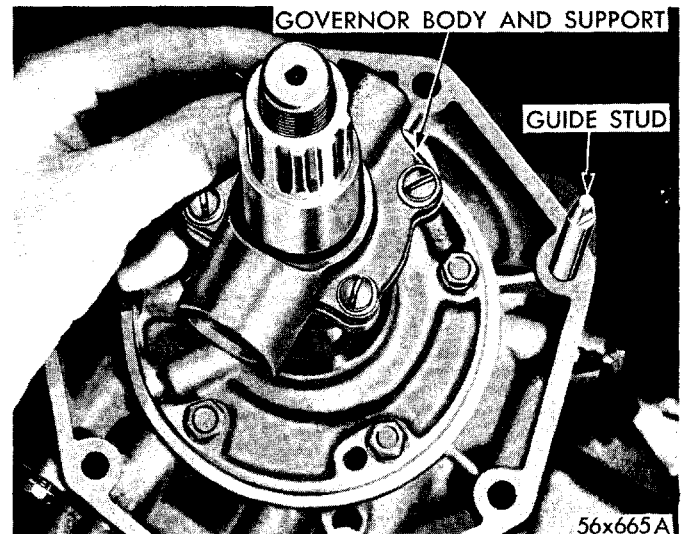

Fig. 30—Removal and Installation of Governor Body and Support Assembly
(3) Using Tool C-3229, remove governor weight assembly snap ring (large) and remove governor weight. The primary cause of governor operating failures is due to improper operation of governor valve which may be sticking in housing or travel restricted by chips or other foreign matter. If inspection reveals necessity for further governor servicing, then remove governor support locating screw, and remove governor and support assembly from rear oil pump housing (Fig. 30). Normal servicing does not require removal of the governor body from the governor support. **If condition warrants removal of governor body from governor support, do not tighten governor body screws when reassembling until governor body support is located on output shaft.**